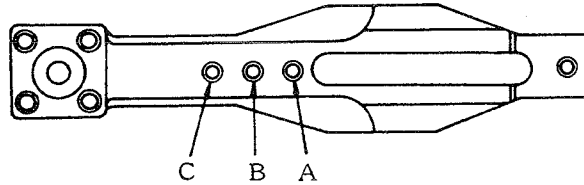

Fig. 71
1. Set the work clamp foot mounting base onto the feed plate carrier bar by using one of A, B or C screw hole according to the size of bar tacking, as shown in Fig. 71.
Lengthwise stitch size	Setting position (Screw holes, Fig. 71)